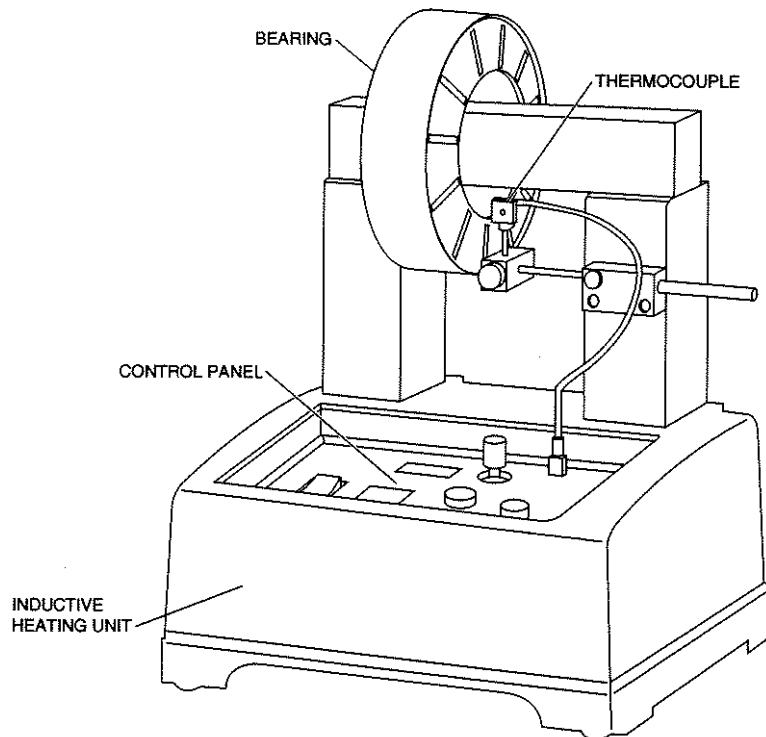

Figure 9.40 Bearing Heater
Step 6: Place the bearing on a bearing heater. **Figure 9.40** shows a bearing heater